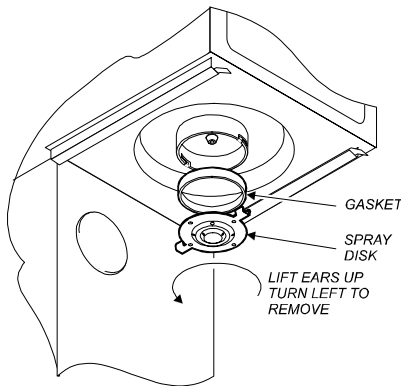

Fig. 6 Cleaning
4. Remove the spray disk from the brew head (See figure 6): Press up on the spray disk ears, then turn the disk to the left to unlatch. Remove the gasket from inside the brew head.